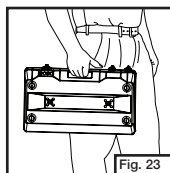

Fig. 23
- To carry the stove, firmly grasp the stove by the handle. (Fig. 23)